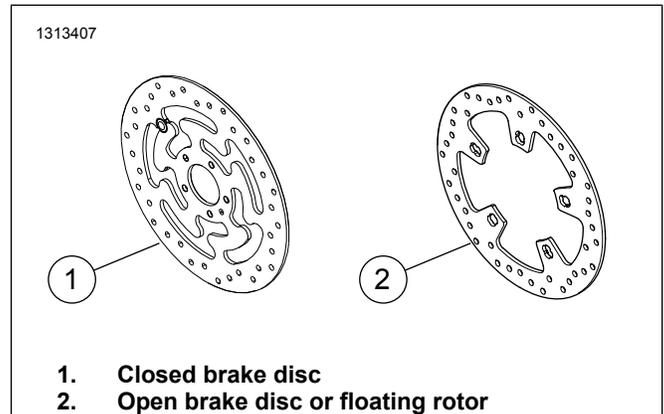

Figure 1. Front Brake Disc Style
- Brake Disc Screws (See Figure 1 and Table 1 )